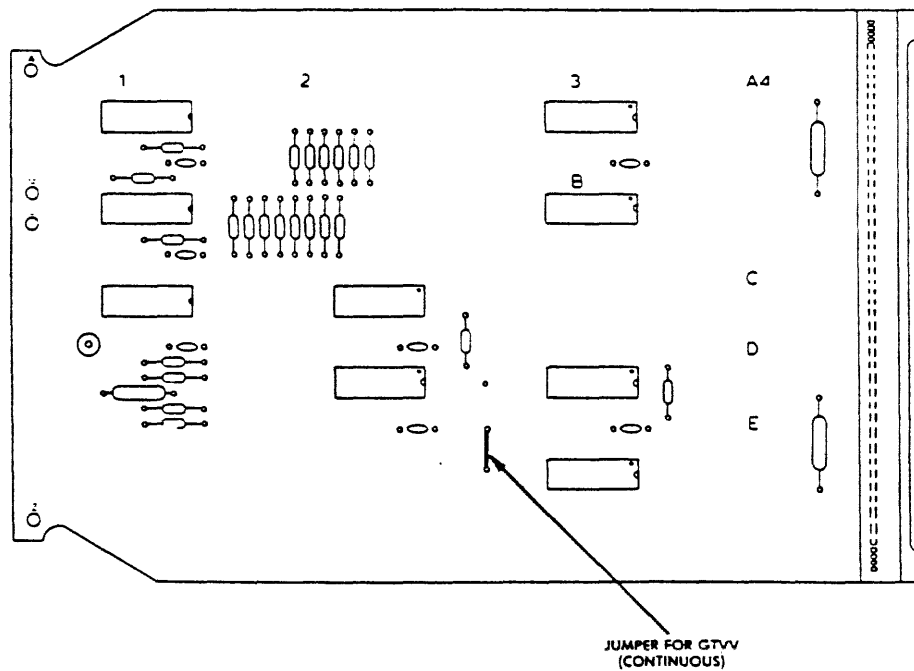

Figure 9-6. TVV Card Jumpered for A- or B-Cable Continuous
- A-cable continuous** The jumper on the __TVV card (slot B01) must be in the continuous position. The card should be identified as GTVV. Dual channel drives have a second card in slot B03 which must be similarly jumpered and identified (see Figure 9-6).
Be sure the jumper(s) on the __TVV card(s) (slots B01 and B03 for dual channel) are in the continuous position and the card(s) are identified as GTVV (see Figure 9-6).